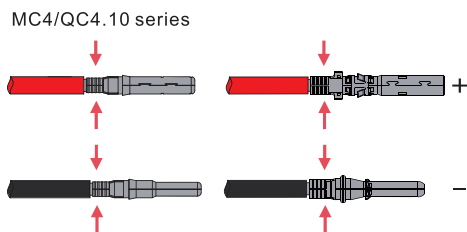

Figure 4.1-2 PV cables to PV connectors
Step 2. Connect PV cables to PV connectors. See Figure 4.1-2.